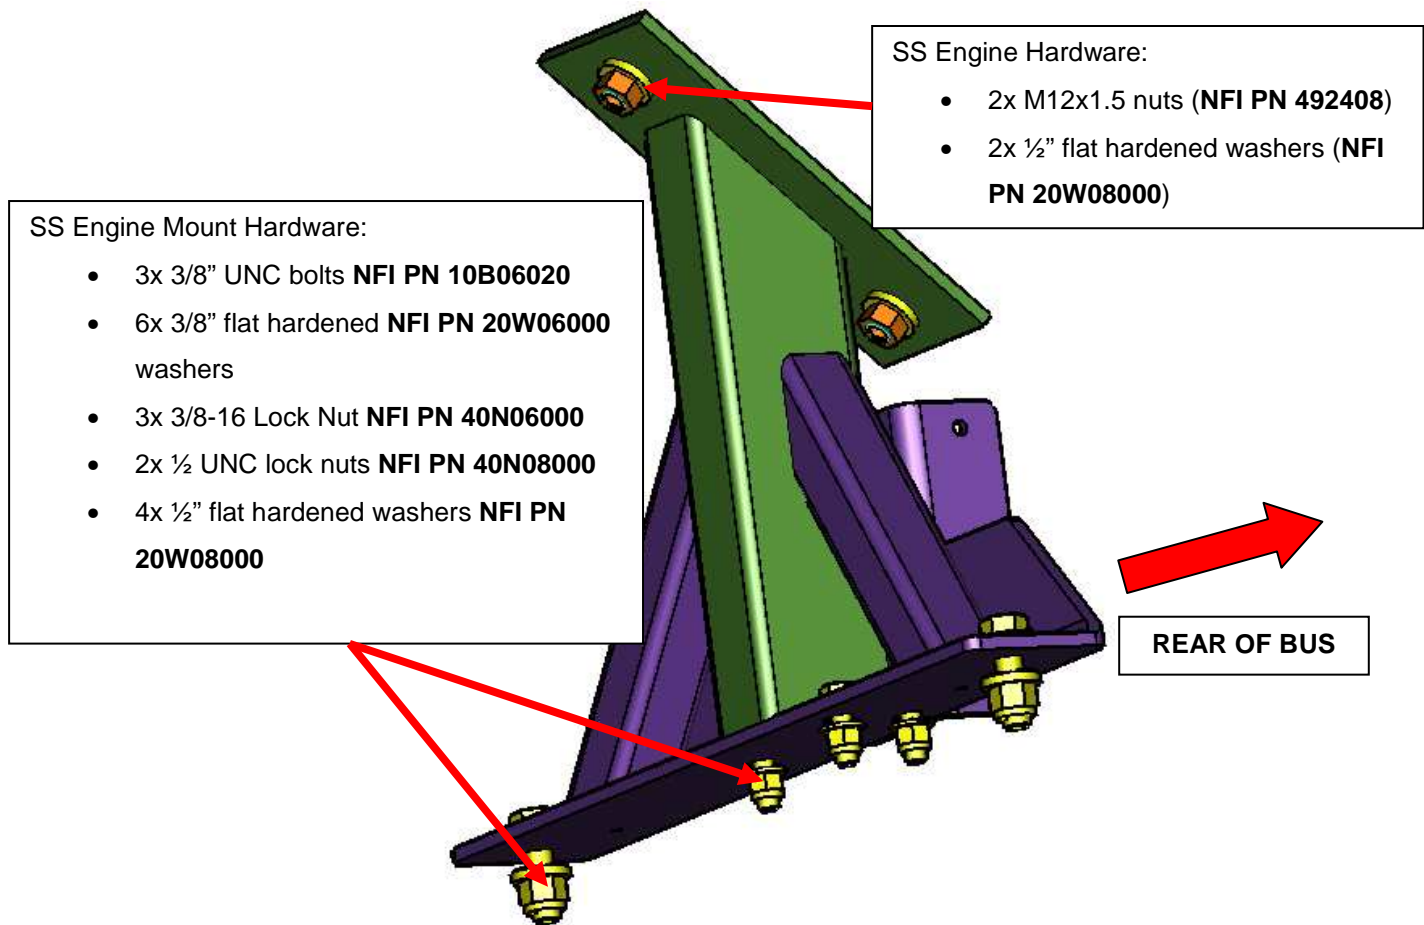

Figure 21: New SS Engine Mount
- q. Secure the new SS Engine Mount (**NFI PN 483081**) to the engine cradle using two ½ UNC lock nuts **NFI PN 40N08000**, four ½" flat hardened washers **NFI PN 20W08000**, two ½" UNC bolts (1.75" long) **NFI PN 10B06064**, three 3/8" UNC bolts **NFI PN 10B06020**, six 3/8" flat hardened **NFI PN 20W06000** washers, and three 3/8-16 Lock Nut **NFI PN 40N06000**, two M12x1.5 nuts (**NFI PN 492408**), and two ½" flat hardened washers **NFI PN 20W08000**. Leave hardware loose as it allows the engine to tilt for easier generator mount installation. Use Never Seize **NFI PN 5928660**. See Fig 21.